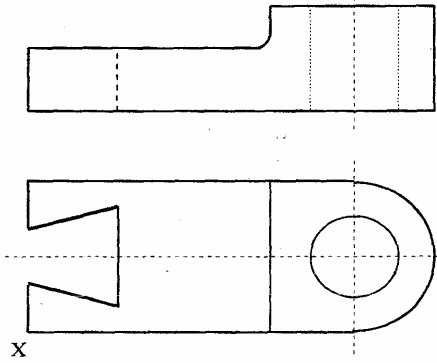

Figure 1
- 10 Figure 1 shows **two** orthographic views of a machined block drawn in first angle projection.